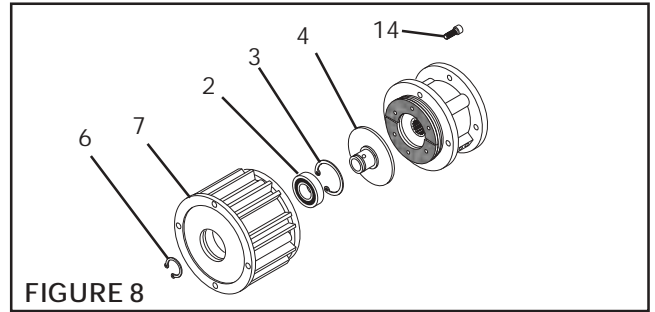

FIGURE 8
1. Remove the four Socket Head Cap Screws (Item 14) and slide the Housing (Item 7), Bearing (Item 2), and the Drive Disc (Item 4) out of the FMCBES (See Figure 8).
2. Remove Retaining Ring (Item 6) (See Figure 8).
3. Press the Drive Disc (Item 4) out of the Bearing (Item 2) and the Housing (Item 7) (See Figure 8).
4. Remove Retaining Ring (Item 3) (See Figure 8).
5. Fully supporting the Housing (Item 7), press the old Bearing (Item 2) out of the Housing (Item 7) (See Figure 8).
6. Clean the bearing bore of the Housing (Item 7) with fresh safety solvent, making sure all old Loctite® residue is removed (See Figure 8).
7. Apply an adequate amount of Loctite® 680 to evenly coat the outer race of the new Bearing (Item 2) (See Figure 8).
8. Carefully align the outer race of the new Bearing (Item 2) with the bore of the Housing (Item 7) (See Figure 8).
9. Supporting the Housing (Item 7) and pressing on the outer race of the new Bearing (Item 2), press the new Bearing into the Housing (See Figure 8).
10. Reinstall Retaining Ring (Item 3) (See Figure 8).
11. Support the inner race of the new Bearing (Item 2) and press the Drive Disc (Item 4) into the new Bearing and Housing (Item 7) (See Figure 8).
12. Reinstall Retaining Ring (Item 6) (See Figure 8).
13. Apply a drop of Loctite® 242 to the threads of the Socket Head Cap Screws (Item 14) (See Figure 8).
14. Slide the Housing (Item 7), Bearing (Item 2), and Drive Disc (Item 4) into the FMCBES and reinstall the four Socket Head Cap Screws (Item 14) (See Figure 8).